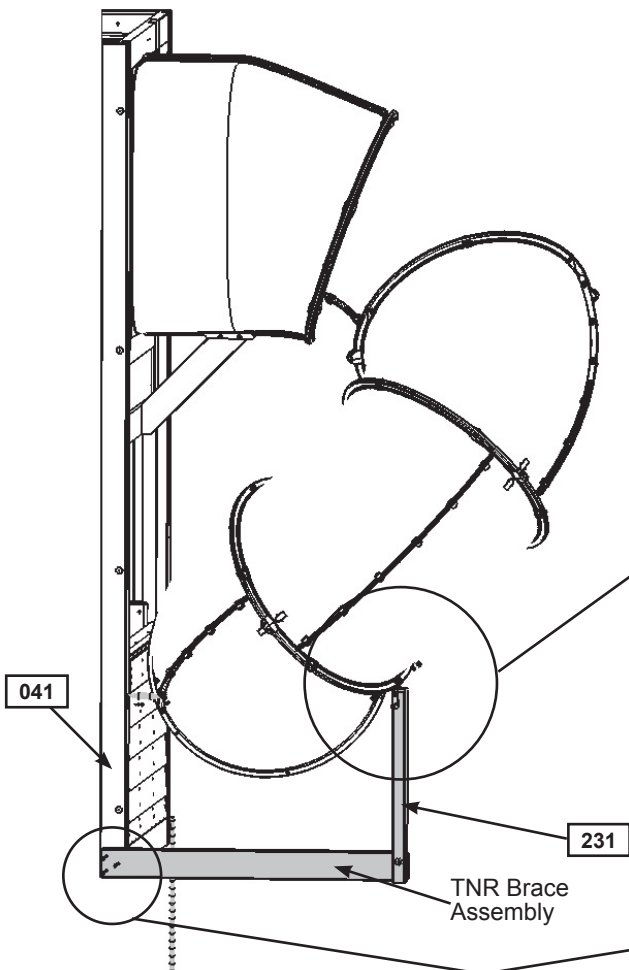

Fig. 25.2
**B:** Attach the top of the TNR3 Post Mount to TNR2 Slide Clamp Ring using 1 (PB2) 1/4 x 1-1/4" Pan Bolt (with the previously removed lock nut and 1 flat washer). (fig. 25.2)
**C:** Insert TNR3 Post Mount on (231) TNR Upright, pre-drill with a 1/8" drill bit then attach with 2 (S6) #12 x 1" Pan Screws. (fig. 25.2)